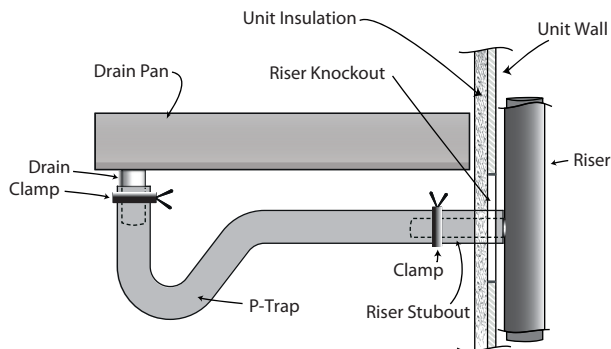

Figure 20
9. Locate the p-trap drain and rubber hose factory installed to the drain pan connection in the bottom of the unit as shown in Figure 20.
11. Adjust the hose clamp over the riser stubout and rubber hose to hold in place as shown in Figure 20.